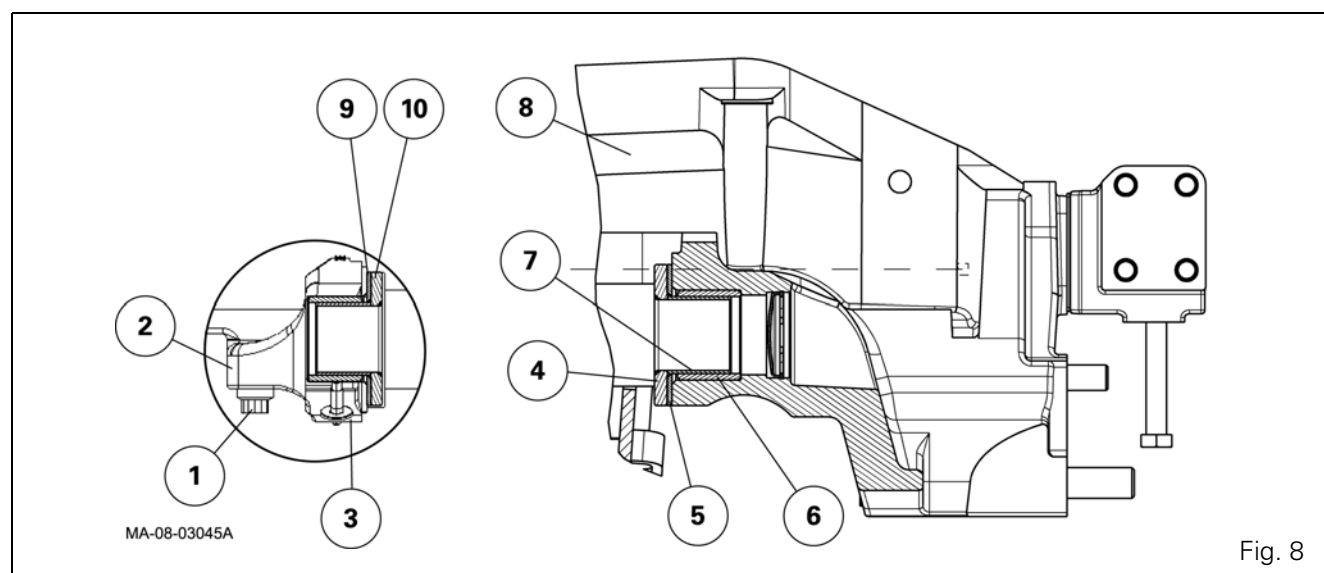

Fig. 8
70. Remove screws (1) and grease nipple (3). Remove front bearing (2) and washers (9)(10) (Fig. 8).
71. Remove the front axle by releasing it from the front frame (8) (Fig. 8).
73. Sling and engage the axle support in the bearing of the front frame (8) after previously turning the chamfer of the washers (5) (6) towards the axle (Fig. 8).
74. Position the washers (9)(10) (with the chamfer turned towards the axle) (Fig. 8). Fit the front bearing (2) to reduce to a minimum the clearance between the washers and the axle.
75. Lightly smear screws (1) with Loctite 270 or equivalent (Fig. 8) and tighten them to a torque of 520 - 640 Nm. Remove the sling.
76. Refit the ram (2) on the axle (12).
78. Fit the grease nipples (Fig. 8).
79. Grease the two bearings (Fig. 8).
80. Fit the nuts and screws (14) to a torque of 260 Nm.
81. Fit the screws (11) to couple the rods (5) and the ball joints (6) and tighten the nuts to a torque of 70 Nm.